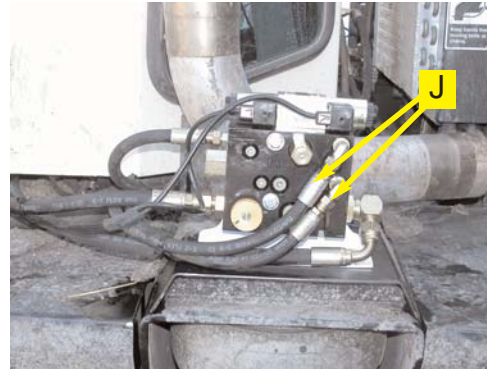

Figure 6b. Straight hose ends attached to Automated Steering Block.
- d. Attach the straight ends of the steering output hoses to the Automated Steering Block. (Figure 6b.)